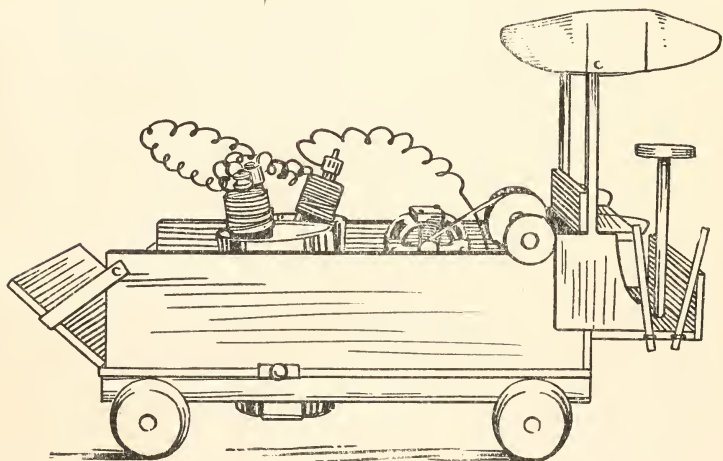
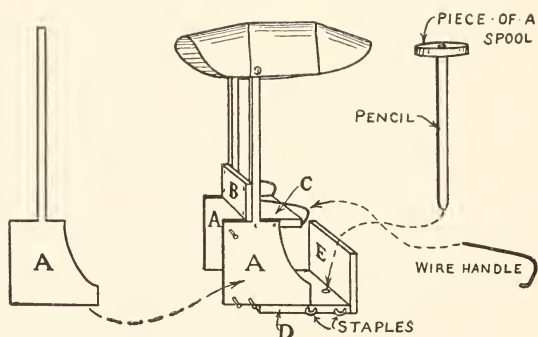

FIG. 199. — A Toy Electric Motor Truck.
FIG. 210. — Details of Seat and Canopy-Top.
The Toy Electric Motor Truck shown in Fig. 199 is of
**The Seat and Canopy-Top** details are shown in Fig. 210. Make these in about the proportion to the cigar-box shown in Fig. 199. Fasten the seat to the edge of the seat-back *B* with glue and brads, and then fasten the side pieces *A* to the ends of the seat. The dashboard *E* is nailed to the
**The Steering-Wheel** is a section of a spool  $\frac{1}{8}$  inch thick, and is glued upon the end of a pencil or a stick. Run the lower end of the pencil through a hole in the bottom of *D* (Fig. 210). For